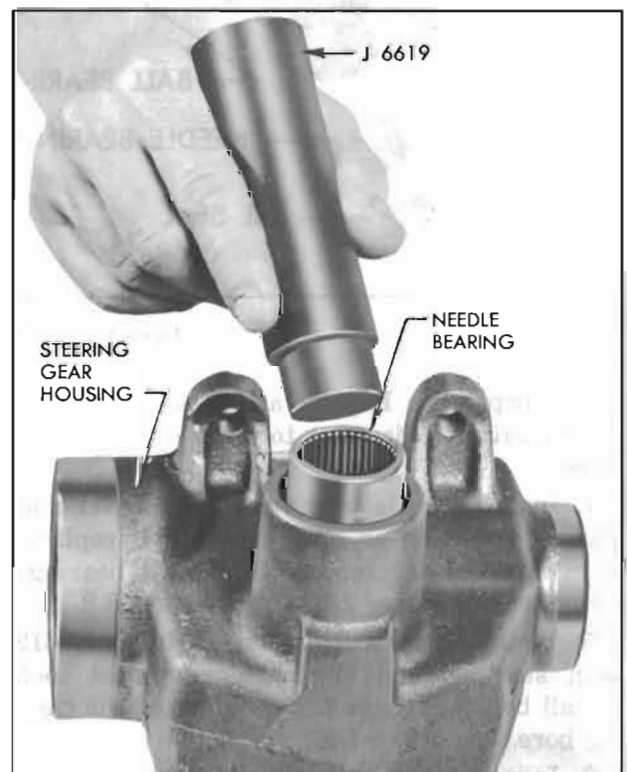

Figure 8-9—Installing Needle Bearing
5. Install new bearings using installer J-6619 with stamped end of bearings against tool. Install bearings flush with surface of the casting bore. See figure 8-9.